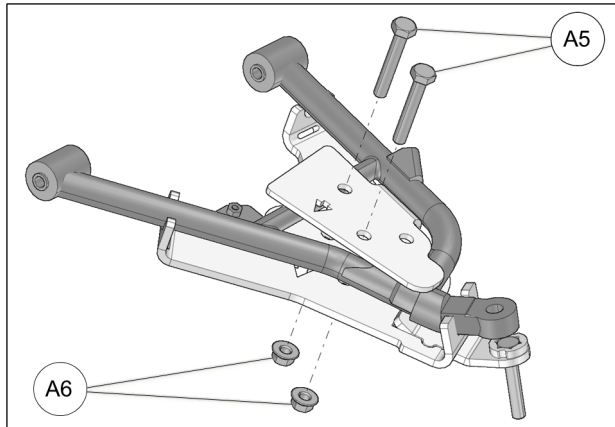

Fig. 22
11. Insert the M10x65 mm bolts (**A5**) through the top and secure the two parts together with the nuts (**A6**) provided. Tighten assembly to 50 N•m [37 lb•ft] of torque. See Fig. 22